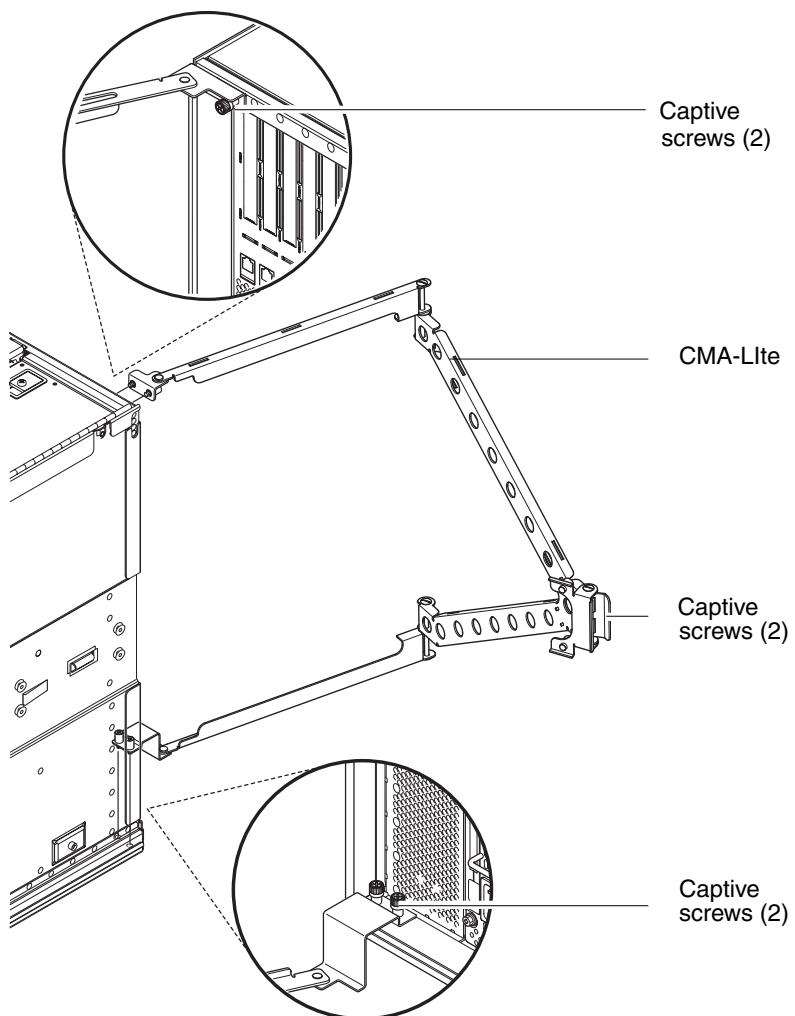

FIGURE 1-14 CMA–Lite Cable Management Arm
1. Secure the pivot at the end of the upper arm to the top rear of the system, using the two captive screws (FIGURE 1-14).